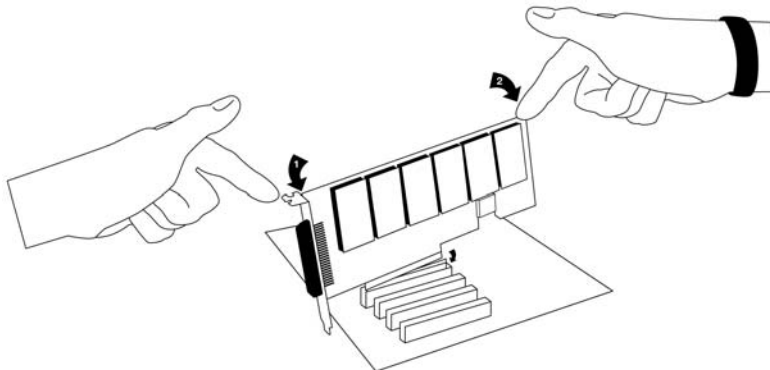

Figure 6: Insert the Card
3. Remove the bracket place holder and insert the card into a 3.3 or 5 volt PCI slot (PCI 2.2 or greater). See Figure 6.